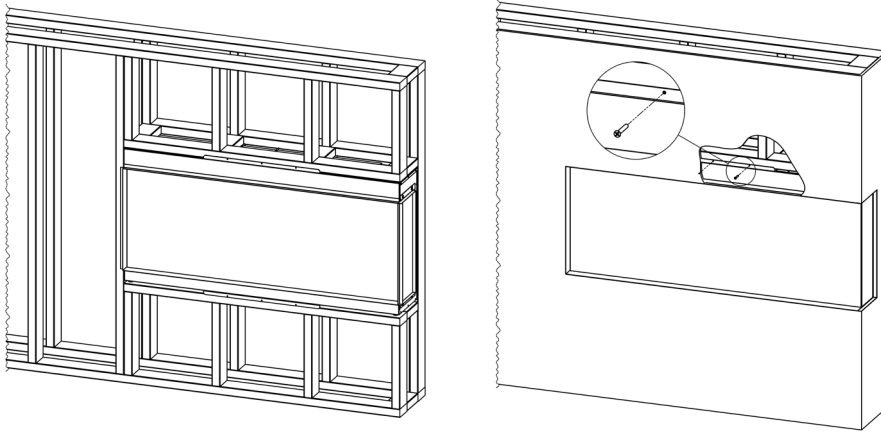

Fig. 2-2
- Fasten the fireplace to the framing using the “L” Metal Nailing Flanges and drywall screws that have a minimum length of 1-1/4” (Fig 2-2).